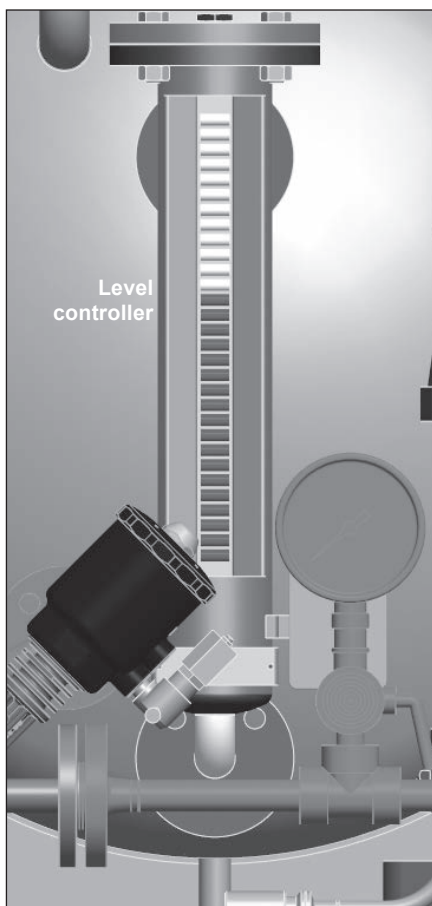

Fig. 17
5.4.7 Level controller - Figure 17